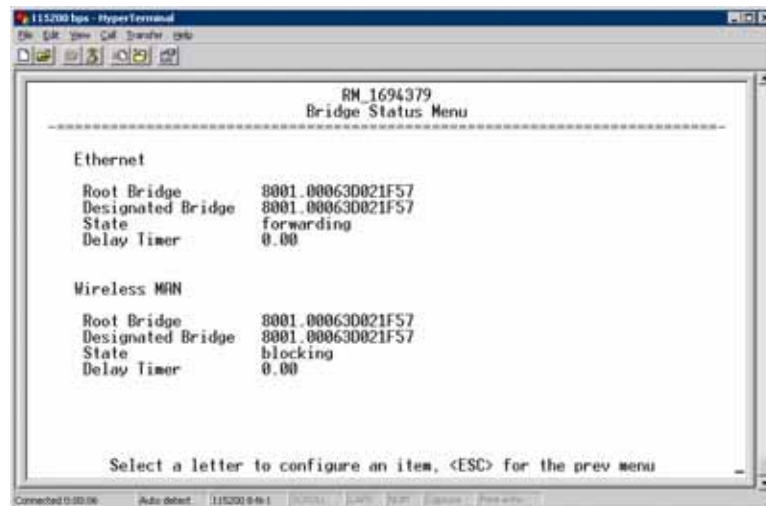

Figure 3-83. Bridge Status Menu
- **Bridge Status**—Displays the network bridge status. (See Figure 3-83 on Page 111.)